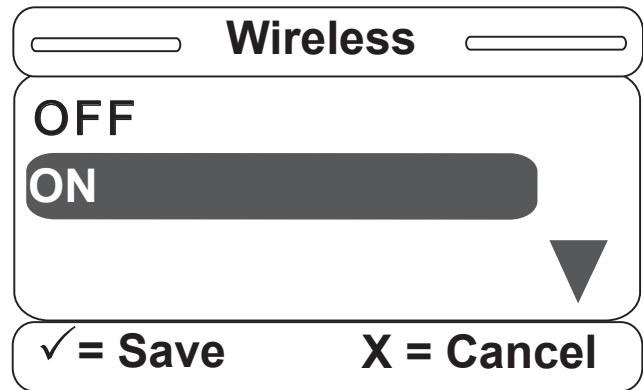

Figure S-19
19. Once the Wireless item is selected, the screen in Figure S-19 will be displayed. You can set the Wireless option to ON. Hit "Enter" on the footboard panel to make your selection or "Exit" to cancel the operation.